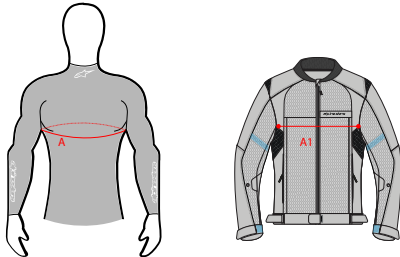

Figure 8
WARNING! Tech-Air® 3 in sizes "S" or larger shall be worn with a Tech-Air® Ready Alpinestars' outer garment of the same size of the System or with any Alpinestars' outer garment that is not Tech-Air® Ready provided that the size of the Alpinestars' outer garment is one size larger than the size of the System or regardless of whether it is an Alpinestars' outer garment or not meets the following criteria: For the chest area, measure the circumference of the chest (A) and the garment width on the chest region (A1). The garment is compatible with Tech-Air® 3 System if $A1 > 0.5 \times A + 12$ cm ($A1 > 0.5 \times A + 4.72$ in) (see figure 8 below)